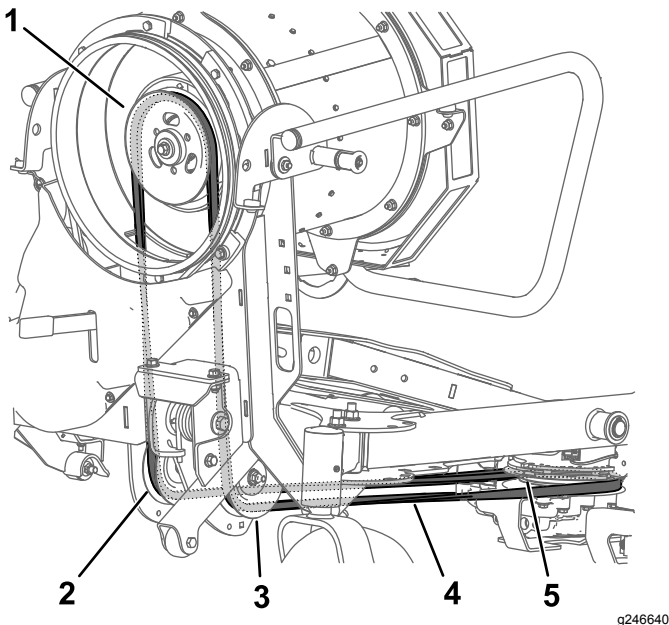

Figure 31
6. Remove the belt from the fan pulley (Figure 31).
7. Route the belt down through the drive adapter assembly, around the idler pulleys, and around the clutch pulley (Figure 31). Ensure that the belt is seated properly in the pulley grooves.